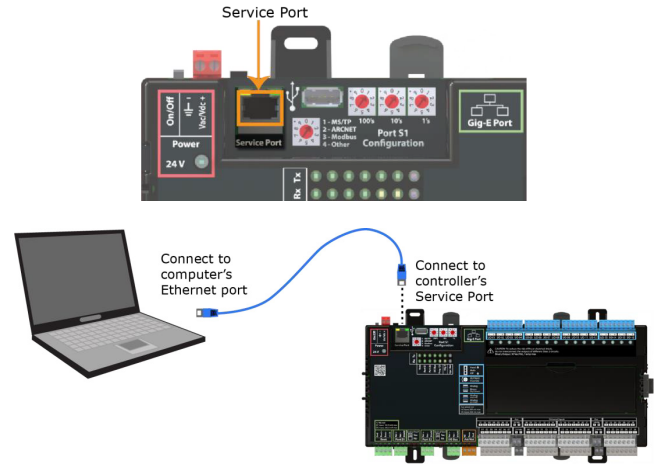

Fig. 11 — Service Port Connection
1. Connect an ethernet cable from a computer to the controller's Service Port (see Fig. 11).